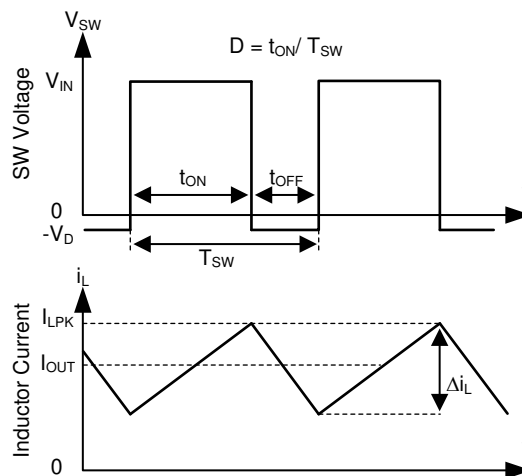

图 8-1. SW Node and Inductor Current Waveforms in Continuous Conduction Mode (CCM)
The following operating description of the LMR23630 refers to # 8.2 and to the waveforms in 图 8-1. The LMR23630 is a step-down synchronous buck regulator with integrated high-side (HS) and low-side (LS) switches (synchronous rectifier). The LMR23630 supplies a regulated output voltage by turning on the HS and LS NMOS switches with controlled duty cycle. During high-side switch ON-time, the SW pin voltage swings up to approximately V_{IN} , and the inductor current i_L increase with linear slope $(V_{IN} - V_{OUT}) / L$. When the HS switch is turned off by the control logic, the LS switch is turned on after an anti-shoot-through dead time. Inductor current discharges through the LS switch with a slope of $-V_{OUT} / L$. The control parameter of a buck converter is defined as duty cycle $D = t_{ON} / T_{SW}$, where t_{ON} is the high-side switch ON-time and T_{SW} is the switching period. The regulator control loop maintains a constant output voltage by adjusting the duty cycle D . In an ideal buck converter, where losses are ignored, D is proportional to the output voltage and inversely proportional to the input voltage: $D = V_{OUT} / V_{IN}$.